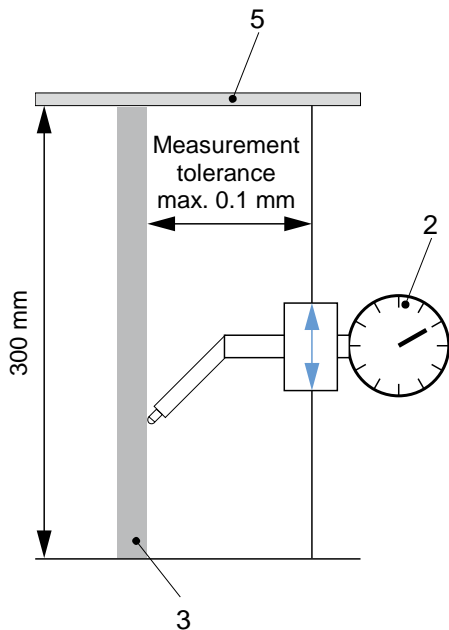

Fig. 1: Alignment piston rod
9.2 Installation (Figs. 1 and 2)
The piston rod support (Fig. 1 Item 5) and the piston rod (Fig. 1 Item 3) (customer-side) must be exactly aligned with one another. Max. Deviation to 0.3 m = 0.1 mm
1. Connect the pneumatic hose with \varnothing m1 (Fig. 1, section 4.3) to the compressed air connection (plug-in fitting item 6)